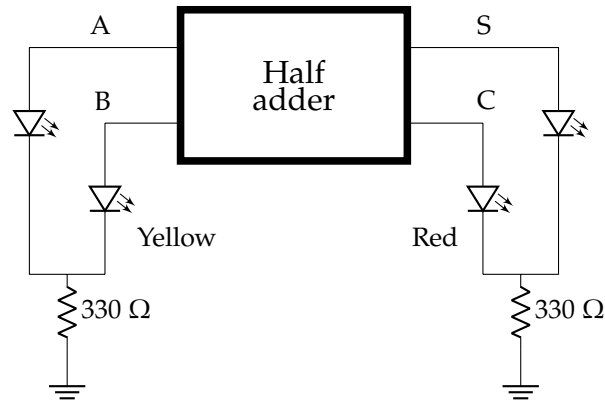

Figure 5.13: Inputs and outputs of half adder
**Task 10.** Construct two independent half adders on the breadboard using the logic ICs. Connect LEDs to the inputs (yellow) and the outputs (red) of each half adder as shown in Figure 5.13 to observe the logic levels easily. Verify the functionality with respect to Table 5.1.